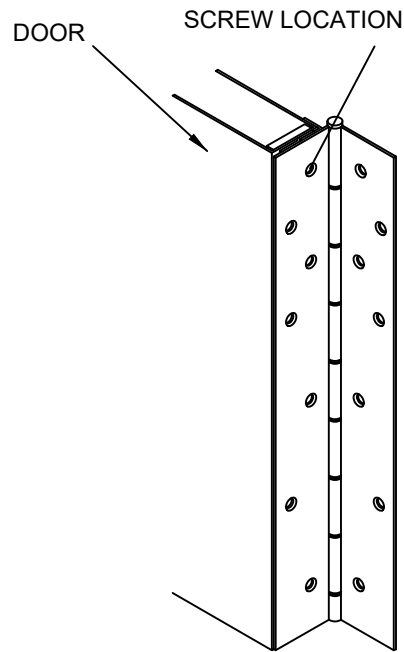

FIG. 3
2. Mark and center punch all the screw locations on the door with the hinge held firmly in place (FIG. 3).